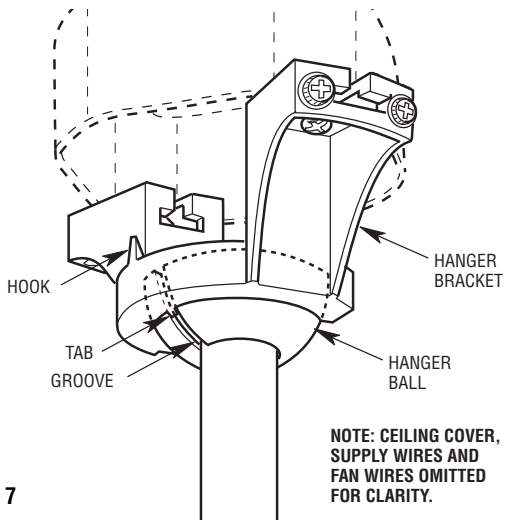
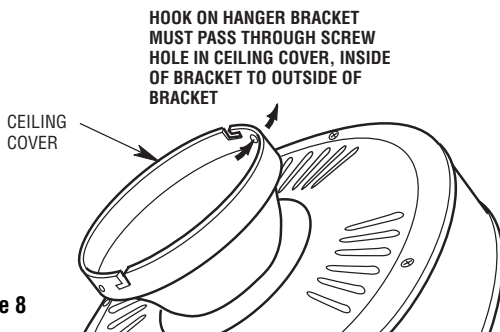

Figure 7
Figure 8
1. Carefully lift the fan assembly and seat the hanger ball in the hanger bracket (Figure 7). The tab on the hanger bracket must seat in the groove in the hanger ball.
- Carefully lift the fan assembly up to the hanger bracket. Pass the hook on the hanger bracket (Figure 7) through one of the screw holes (not the slots) in the ceiling cover (Figure 8). The hook must pass from the inside of the ceiling cover to the outside. The hook will hold the fan assembly while connecting the wiring.